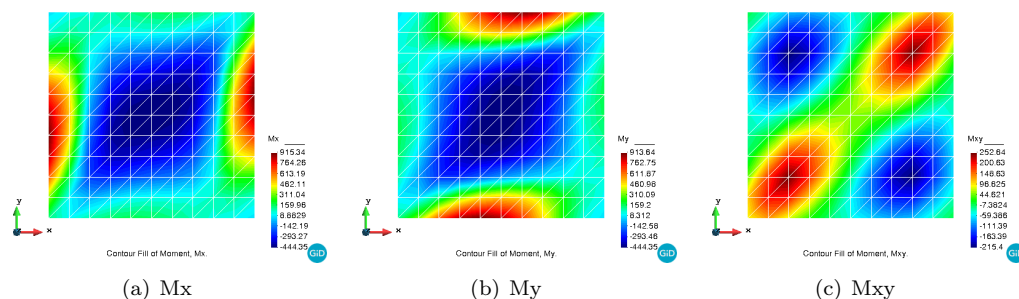

Figure 10: Parabolic Shaped Shell
Taking a look at the moments(Figures 10 and 11), it can be said that the pattern is similar between the two configurations, not so much the dimensions. The same observation can be done in the case of Shear (Q).